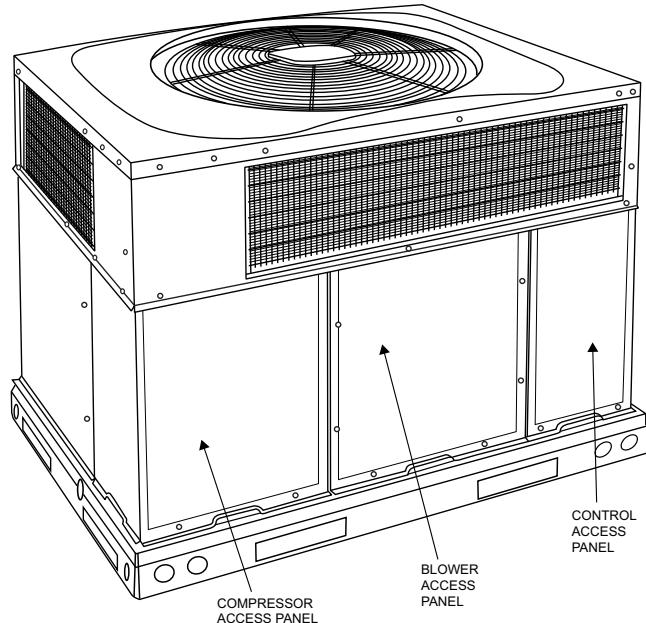
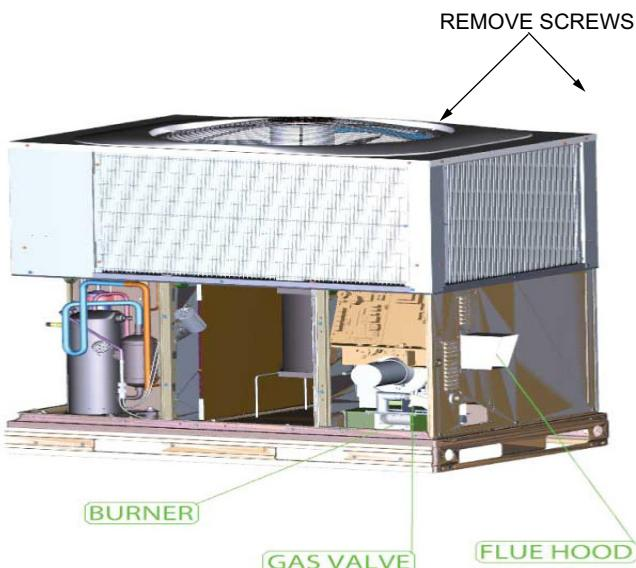

Fig. 2 – Unit Access Panel
Fig. 3 – Gas Heating/Electric Cooling Unit with Access Panel Removed A200279
Refer to Fig. 2 for location of unit front access panel. Refer to Fig. 3 for location of gas valve. Refer to Fig. 4 while proceeding with the following steps.
4. Remove the control access panel with a 5/16-in. nut driver. (See Fig. 2.)
4. Remove the control access panel. (See Fig. 2.)